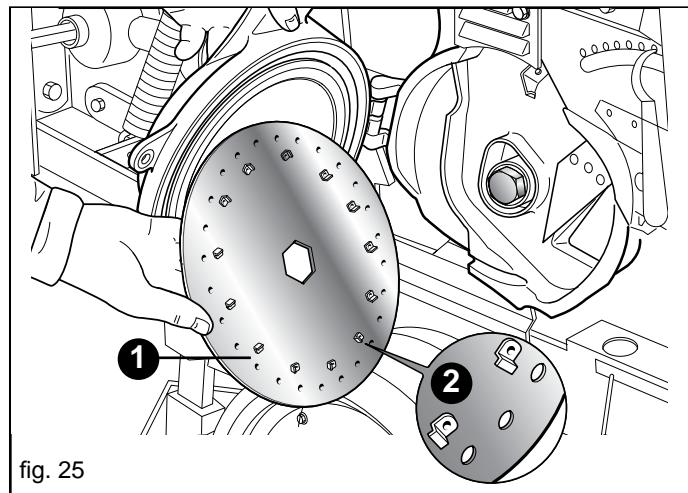

fig. 25
A plate (1, Fig. 25), chosen according to the size of the seed, is installed inside the distributors (Fig. 25) (the seed should not be able to enter the hole). Should suction cause some seeds to clog the holes of the plate, these will be left on the ground. The seeder is delivered to the customer with a single set of plates already installed on the distributors. The Manufacturer can supply the client with further sets of plates. (see Table 3, page 59).
- The plate must be assembled with the pegs (2, Fig. 25) pointing towards the inside of the distributor.